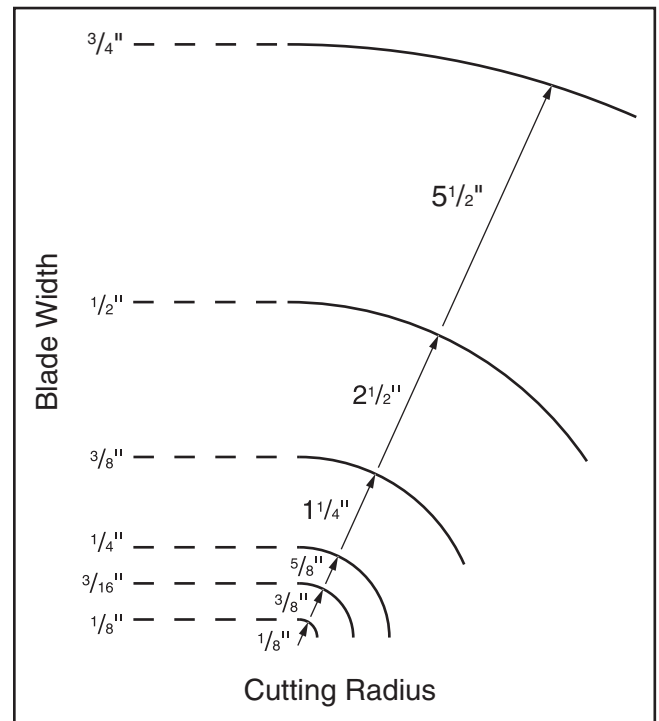

Figure 47. Recommended cutting radius per blade width.
- **Curve Cutting:** Use the chart in **Figure 47** to determine the correct blade for curve cutting. Determine the smallest radius curve that will be cut on your workpiece and use the corresponding blade width (refer to **Cutting Curves** on **Page 45** for more information).